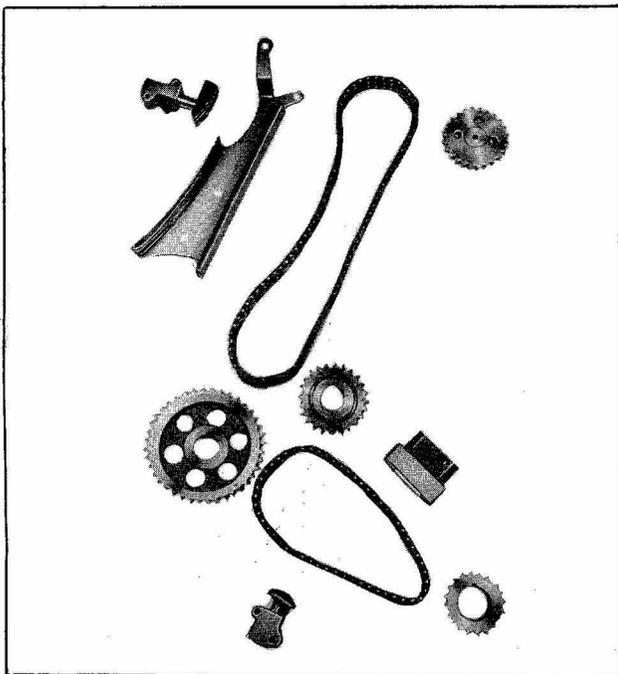

Fig. EM-38
2. Disconnect Camshaft sprocket at Camshaft front end and support Camshaft sprocket temporarily with a screw to Camshaft chain guide as shown in Fig. EM-38.